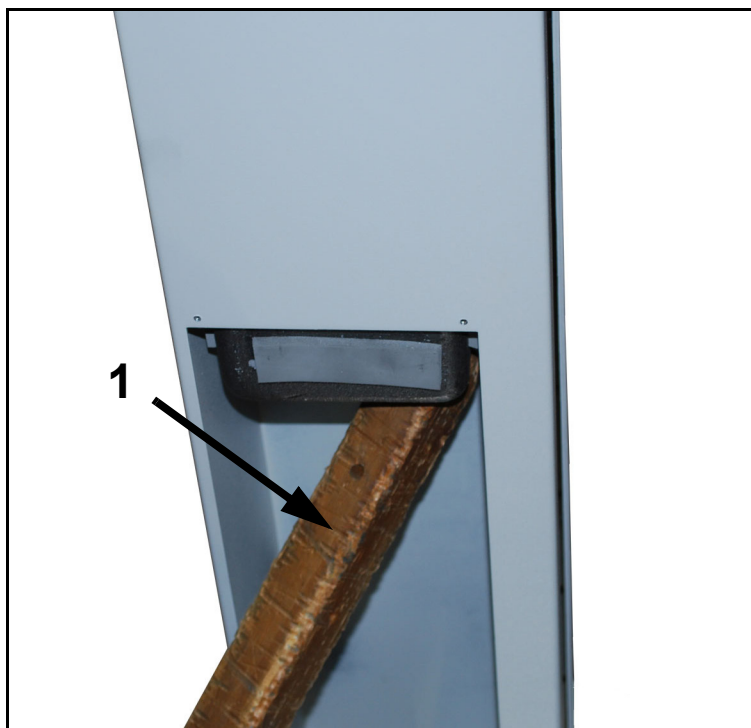

Figure 2-12. 2 x 4
- 12 Slide the 2" x 4" x 2' stud (1 in Figure 2-12) inside the column to lower the bucky mounting bars in order to attach the bucky.